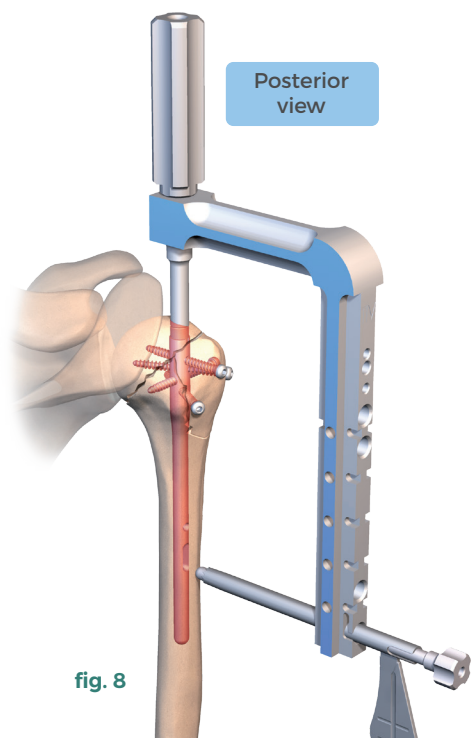

fig. 8
- Insert the blunt tip drill guide sleeve D3.1 mm (**ref. 270 822**) into the aiming sleeve (**ref. 253 678**), until contact is made with the diaphyseal cortical bone (**fig.8**).